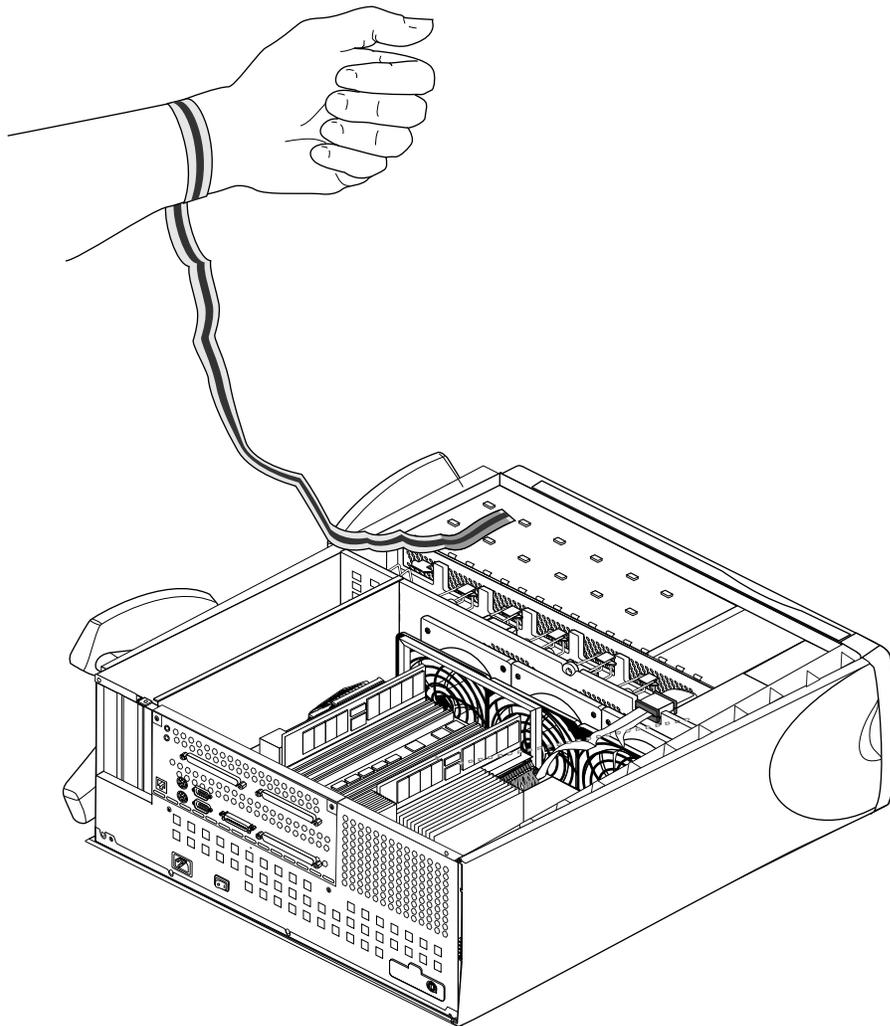

Figure 5-1 Attaching A Grounding Wrist Strap
- Attach the strap to your wrist as shown on the wrist-strap package, and in Figure 5-1.